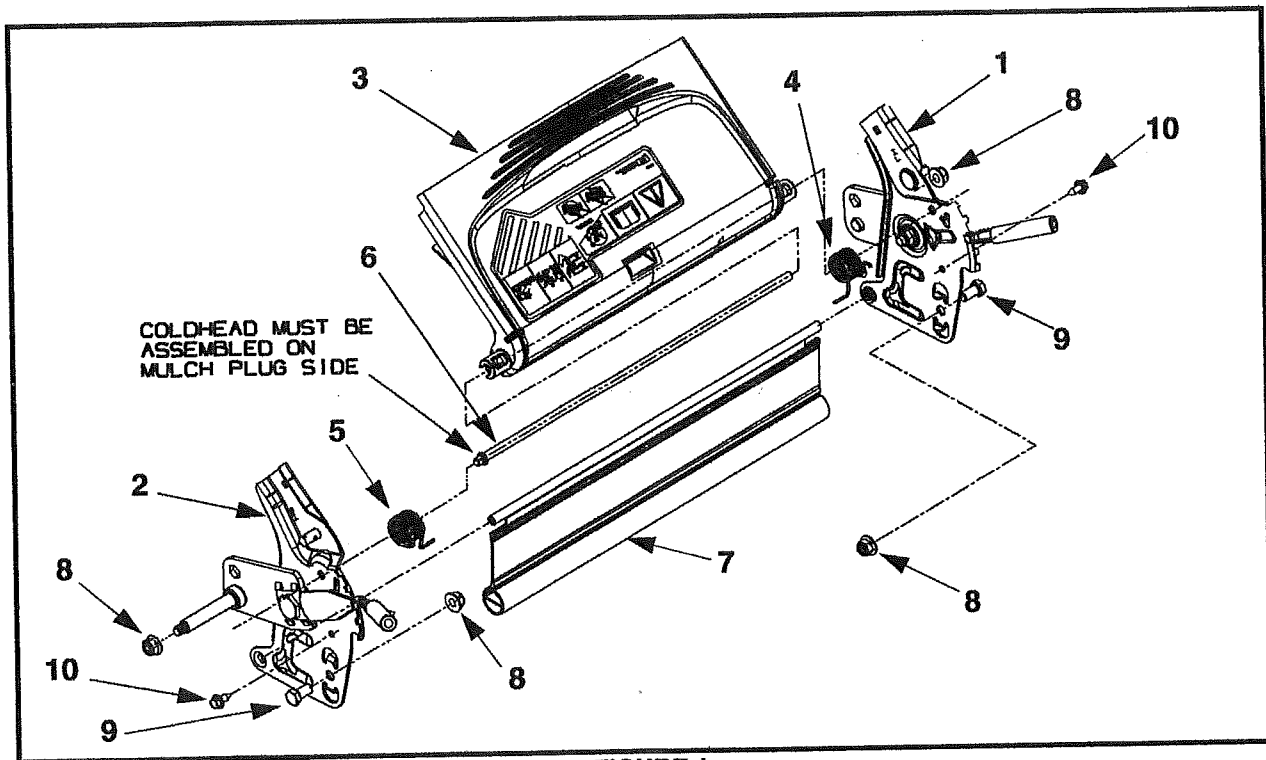

FIGURE 1
Service Kit Contents (See Figure 1)
NOTE: Refer to Figure 1 for the following steps.
9. Slide the Rear Door Pivot Rod, Item 6, through the Plastic Door's upper hinges. Ensure that the coldhead end of the pivot rod is towards the RH handle bracket (mulch plug side). See Figure 1.
11. Install the trail shield pivot rod into the RH handle bracket's trail shield hole. See Figure 1.